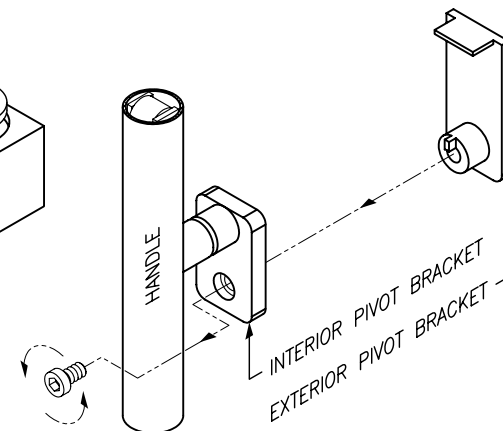

FIGURE 2A
- 2A. REMOVE SOCKET HEAD CAP SCREW (FIGURE 2A) FROM INTERIOR PIVOT BRACKET (EXTERIOR PIVOT BRACKET IS LOCATED ON THE EXTERIOR SIDE OF PLYWOOD TEMPLATE). BE CAREFUL NOT TO LOSE GASKETS AND BRONZE BUSHING LOCATED INSIDE INTERIOR PIVOT BRACKET (REUSE GASKETS ON GLASS).